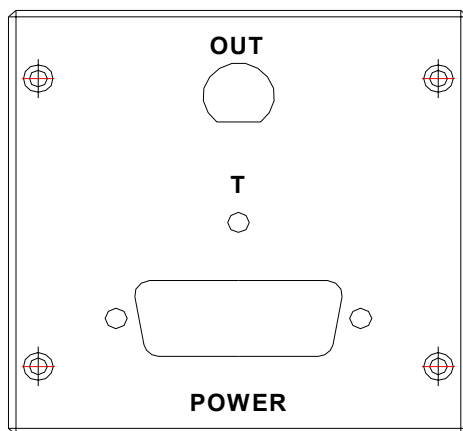

Figure 12. Schematic of the preamplifier back panel.
The preamplifier connectors' panel includes two connectors and one test point, as shown in Figure 12. The DB-15 connector is for detector power supply and the BNC connector is for signal output. The test point "T" is for temperature testing.
- Connect the appropriate ends of the cables to the connectors shown in Figure 12: